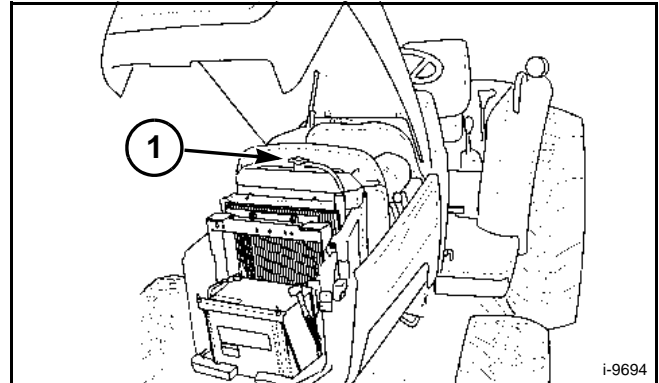

FIG. 1
FIG. 1: Cooling system is filled at factory with anti-freeze solution to protect engine and radiator to -34 degrees C (-29 degrees F). Cooling level must be maintained to 12 mm (0.50 in) below the filler neck opening (1).